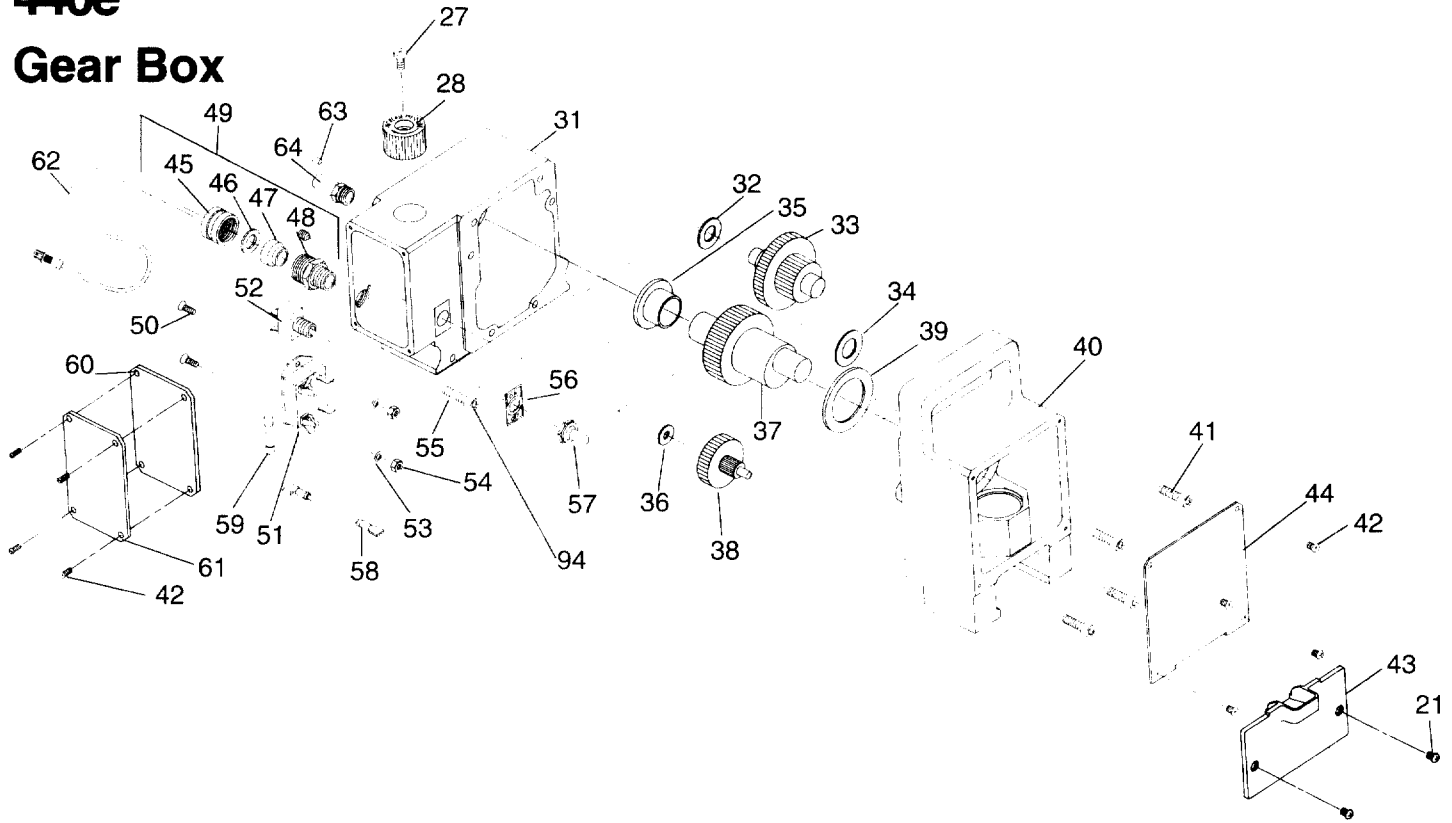

Figure 5
1. Remove safety plate (#43), Figure 5.